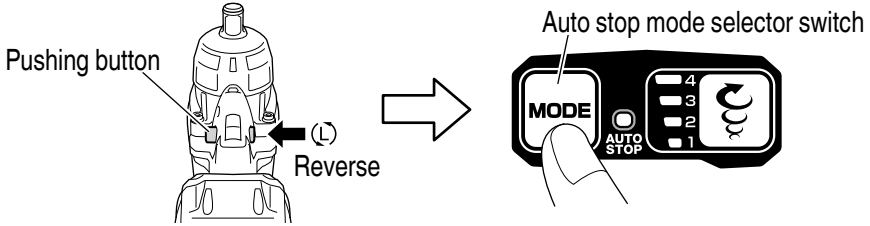

Fig. 24
(4) Auto slow mode (Fig. 24, Table 7)